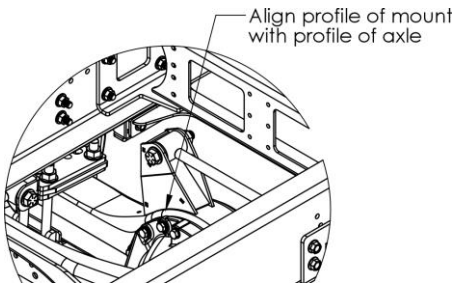

Figure 27. Position Axle Mount
4. Temporarily place the mount onto the axle as shown in Figure 27. The mount profile should approximately match the axle profile.